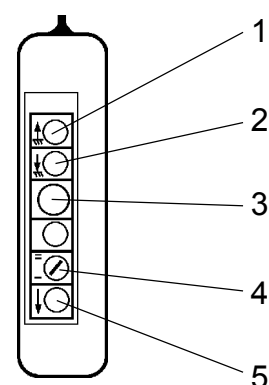

Fig.9-4 Fail safe brake drop test box
3. Place the switch (fig. 9-4, 4) in position I, and raise the transport platform to a height of 3 meters, using the up push button (fig. 9-4, 1).
4. Place the switch (fig. 9-4, 4) in position II.
5. Press the brake test button (fig. 9-4, 5). The brakes will be released and the transport platform will accelerate to excess speed. After approx. 25 to 35 cm, the machine should stop.
6. If the fail safe brake fails to operate, the brake test button must immediately be released. The fail safe brake control box is also equipped with an emergency stop push button (fig. 9-4, 3).